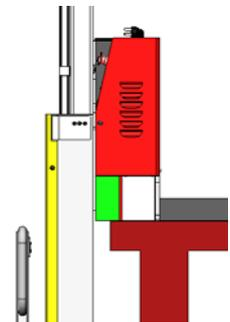

Fig. 9: Platform position
1. This self up stacker, in step 4, must keep the edge of platform in the green area (safe operation area) under the pallet frame. The red area is the limitation area, as shown in fig.9. It's not allowed to operate this truck on other areas except the green and red areas.
As fig. 9 shown, park the truck securely and activate the emergency button (11). Open the main cover (14). Twist the wiring screw of battery, and fixing screws on the battery baffle, battery snap-gauge, remove the wires, battery